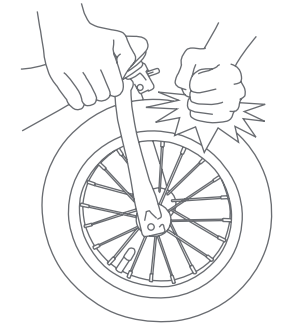

Fig. 24
24) • Lift the front wheel off of the ground and sharply strike the top of the tire (Fig. 24). The wheel should not be loose or come off.